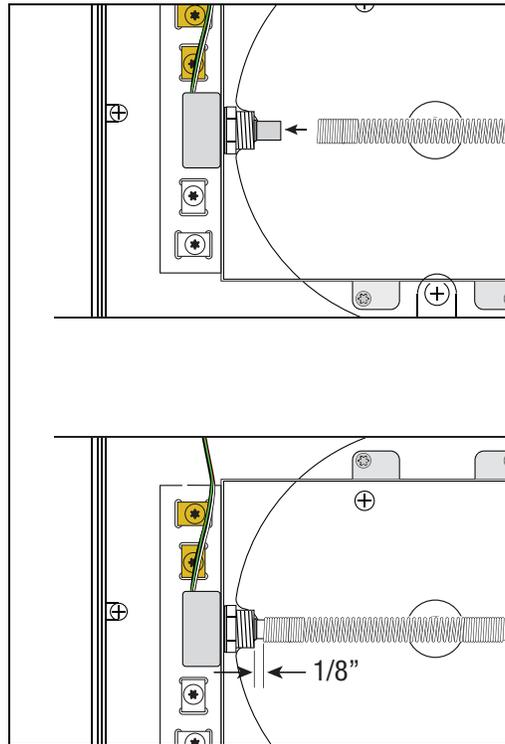

Figure 17. Pushing Encoder Spring Onto Pulse Encoder Shaft
- Carefully bend the encoder spring over to the encoder shaft and push the open spring end onto the shaft. Work the spring onto the shaft until it is about 1/8" from the pulse encoder (Figure 17).